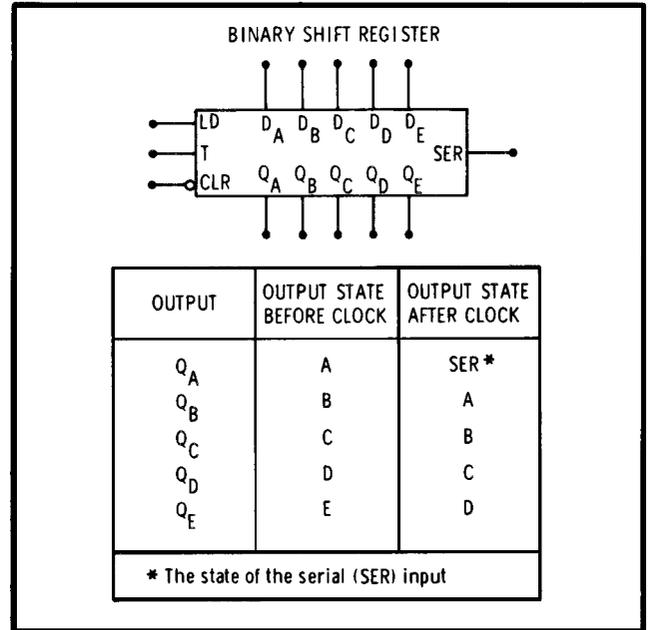

Figure 8-11. Binary Shift Register
8-57. Binary Shift Register. A five bit binary shift register is shown in Figure 8-11. Information of the data (Dn)* inputs is transferred to the respective Qn * outputs when the load (LD) input is high. The load input is independent of the clock (T) input.